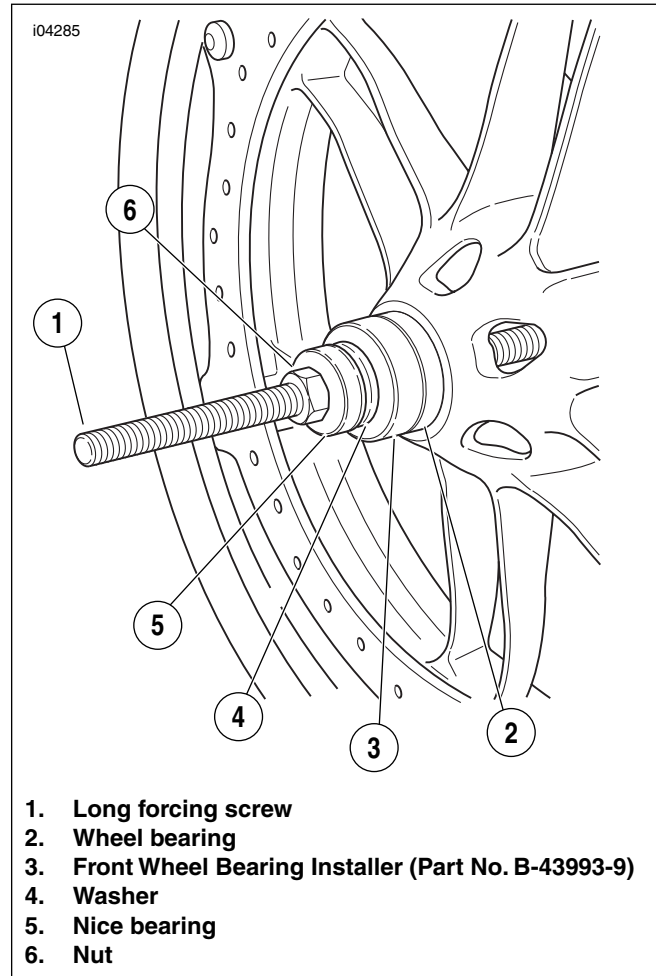

Figure 2-13. Installing Wheel Bearings
2. See Figure 2-13. Sparingly apply EXTREME PRES-SURE LUBRICANT (Part No. J-23444-A) to the threads of the long forcing screw (1) to prolong service life and ensure smooth operation.
3. Insert a **new** wheel bearing (2) squarely into the hub, with the lettered side pointing out (away from the wheel).
4. Slide the FRONT BEARING INSTALLER (Part No. B-43993-9, from kit Part No. B-43993-50) (3) onto the forcing screw (1), with the smaller diameter toward the bearing bore.
5. Install a washer (4), Nice bearing (5) and nut (6) onto the forcing screw (1).
6. While holding the forcing screw (1), tighten the nut (6) until the bearing is seated firmly against the shoulder inside the bearing bore in the wheel hub.